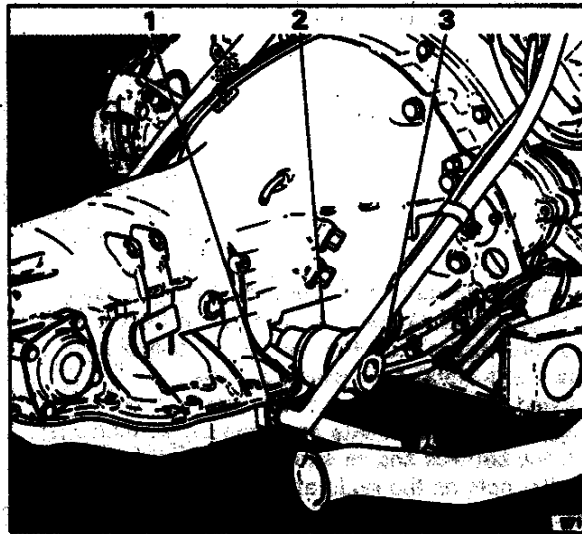

Fig. T37 Vacuum modulator and vacuum pipe
2. Disconnect the vacuum pipe at the modulator end if the transmission is in the car (see Fig. T37).